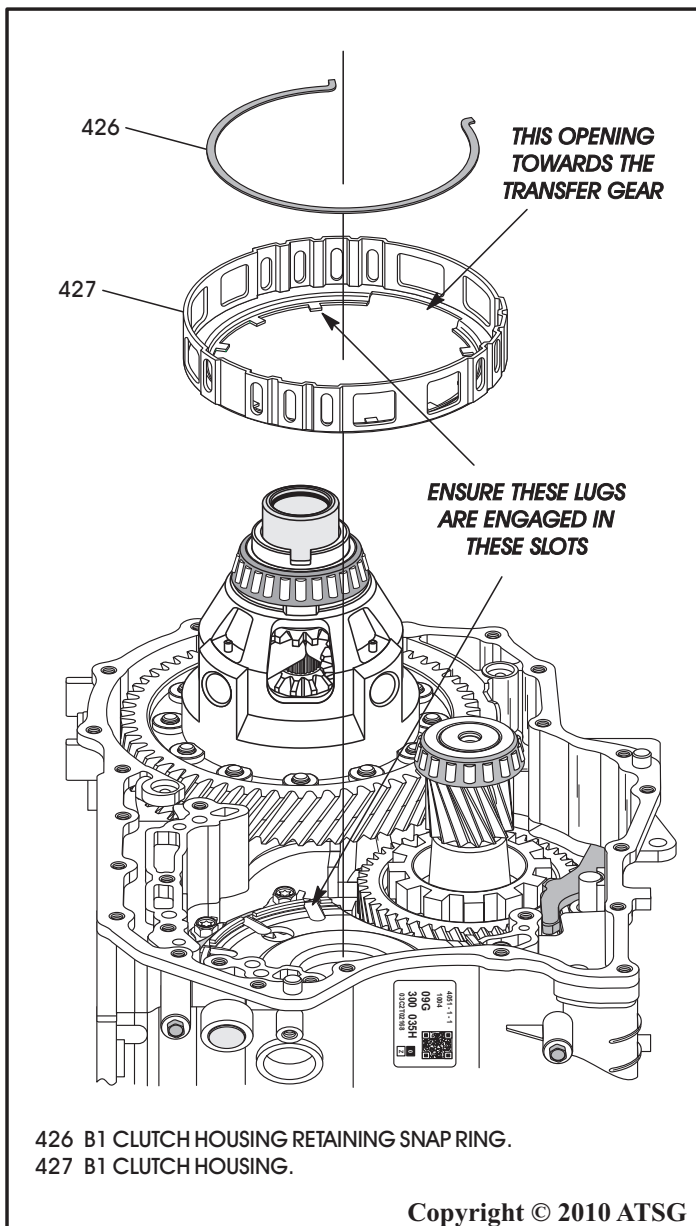

Figure 177
26. Install the B1 clutch housing with the opening towards the transfer driven gear, as shown in Figure 177, and insure lugs are engaged in slots in the center support.
27. Install the B1 clutch housing retaining snap ring with opening towards the transfer gear, as shown in Figure 177, and ensure it is fully seated in the center support.
- Note:** This snap ring is identified by two small "turn-outs" at the snap ring ends, as shown in Figure 177.